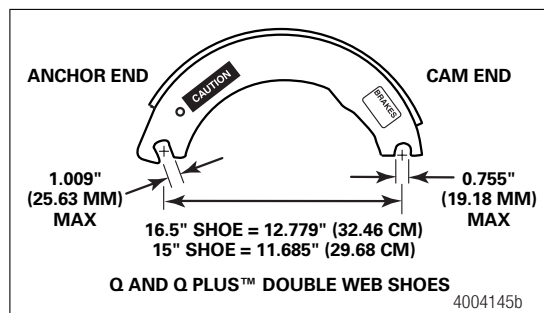

Figure 4.1
- A. For 16.5-inch brake shoes only, anchor pin holes must not exceed 1.009-inches (25.63 mm) in diameter. The distance from the center of the anchor pin hole to the center of the roller hole must not exceed 12.779-inches (32.46 cm). Replace brake shoes with measurements that do not meet specifications. Figure 4.1.
- B. For 15-inch brake shoes only, anchor pin holes must not exceed 1.009-inches (25.63 mm) in diameter. The distance from the center of the anchor pin hole to the center of the roller hole must not exceed 11.685-inches (29.68 cm). Replace brake shoes with measurements that do not meet specifications. Figure 4.1.